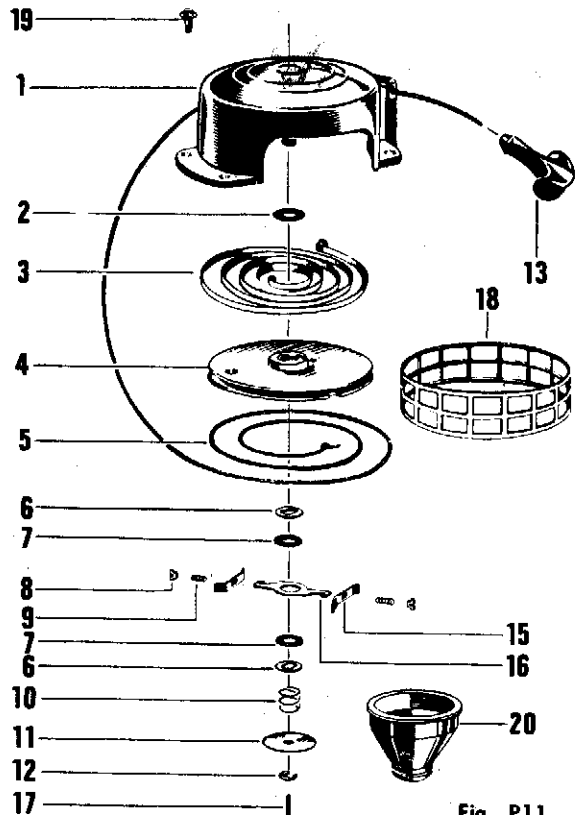

Fig. P11
The order of assembly is shown in Fig. P11, all the working parts being detachable from the housing on removal of the "E" type circlip (12), and handle (13).